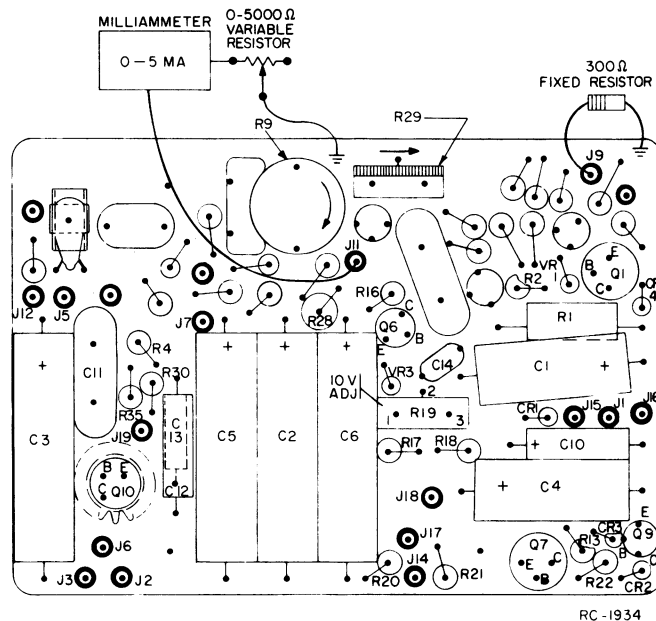

Figure 1 — Power Regulator Board Set-Up
2. Disconnect the Orange lead from A501-J9 and the White lead from A501-J11. Connect the 300-ohm fixed resistor from J9 to ground as shown in Figure 1.
2. Disconnect the Orange lead from A501-J9 and the White lead from A501-J11. Connect the 5000-ohm variable resistor in series with the milliammeter, and connect one end of the circuit to J11 and the other end to ground as shown in Figure 1.